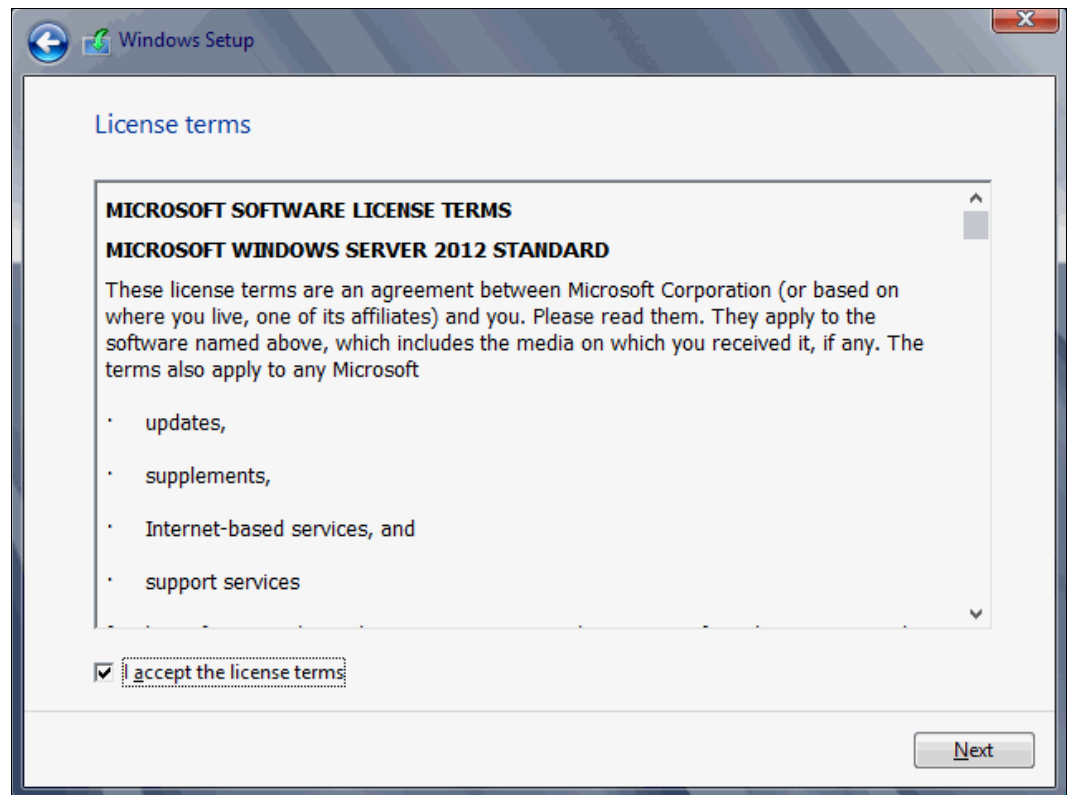

Figure 9-62 License agreement window
5. Read the license agreement, select **I accept the license terms**, and click **Next** (Figure 9-62).